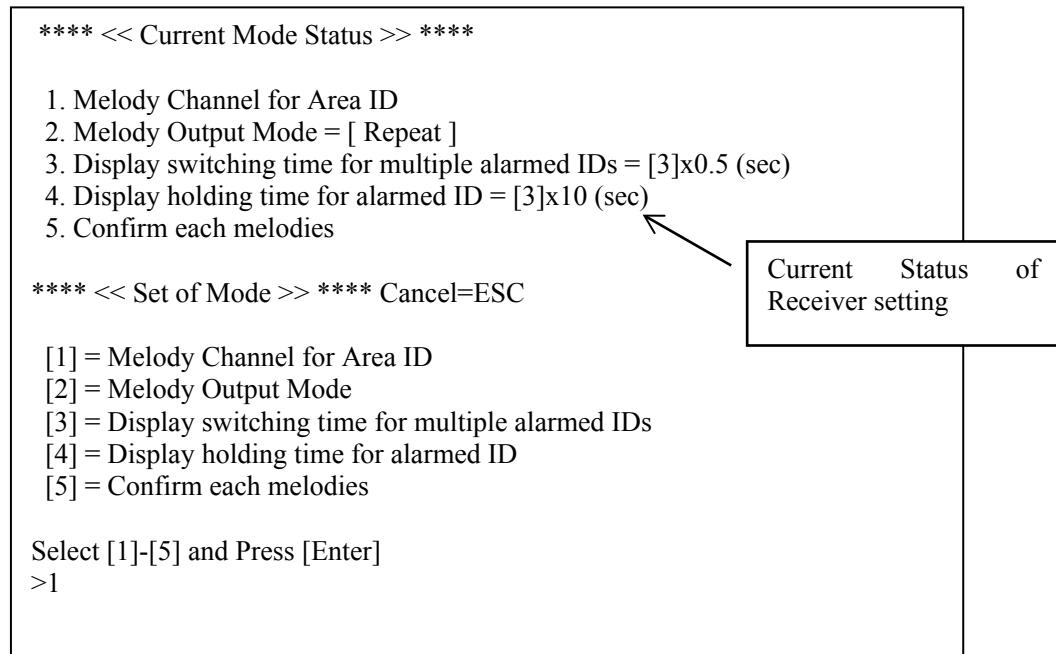

Fig.4-21 Mode Set for Receiver
□Setting of Melody Output Method (Select [□] in Fig.4-21)
□Display switching time for multiple ID's Set (Select [□] in Fig.4-21)
□Display holding time for alarmed ID Set (Select [4] in Fig.4-21)
□ Confirm each melodies (Select [□] Confirm in Fig.4-21)
□ Push [Esc] in Fig. 4-21, and then CLONING MODE will be terminated.